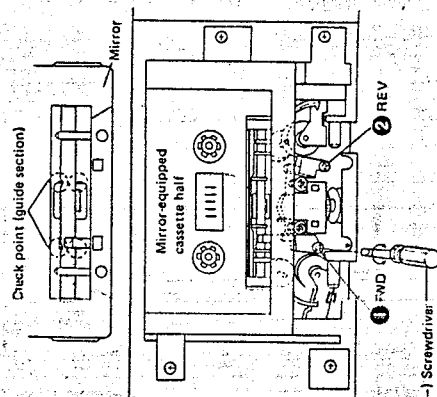

Fig. 12-4 Tape travel adjustment
2. Adjust nut ① to ensure that no tape curling occurs in the guide section of the recording and erase heads as shown in Fig. 12-4.
4. Adjust nut ② to ensure that no tape curling occurs in the guide section of the recording and during heads.